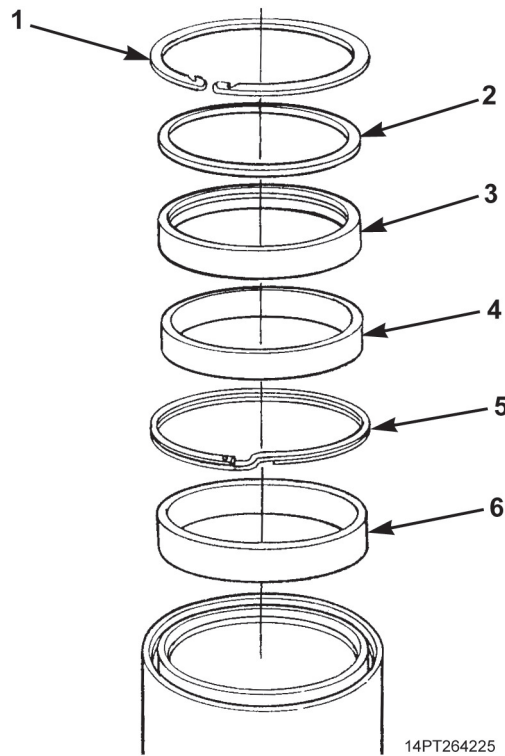

Figure 23. Ring, Seal, and Wiper Installation.
4. Install new bottom guide ring (Figure 23, Item 6) and new spiral retaining ring (Figure 23, Item 5).
5. Install new seal (Figure 23, Item 4).
6. Install new wiper (Figure 23, Item 2) in new wiper retainer (Figure 23, Item 3) and install wiper retainer.
7. Install retaining ring (Figure 23, Item 1).